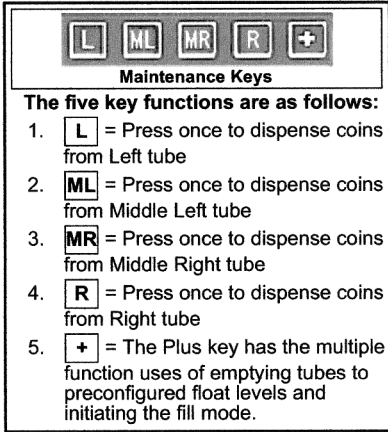

Figure 3 Maintenance Key Functions
The following two methods can be used to fill cassettes using the Maintenance keys. The specific function of each key is described in Figure 3. Refer to the JCM A-66 Maintenance Manual (Part No. 960-000102) for detailed descriptions concerning the full use of these front panel keys if necessary:
1. Press the + key once (See Figure 3 on page 3).
3. Hold down any one of the four Maintenance Keys (**L**, **ML**, **MR**, or **R**) for approximately five (5) seconds (See Figure 3). The related tube will automatically empty down to the preconfigured 50% float level.